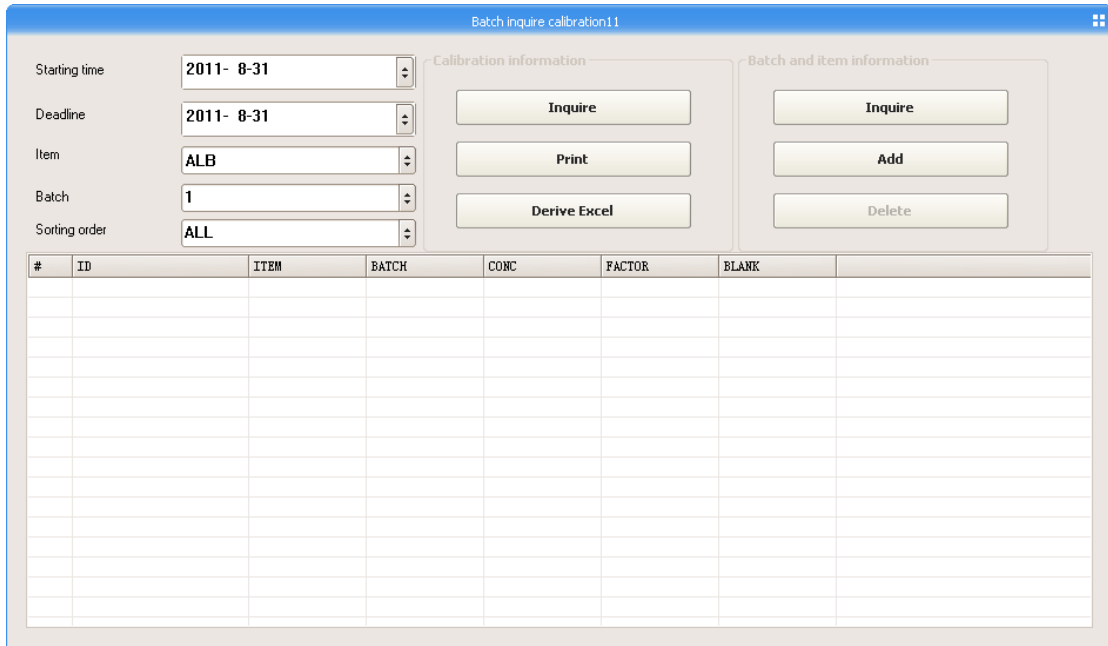

Figure 5-15
2. Input the batch number, then ordinally choose project names, then click the "add" button, you can set the batch number of the corresponding project, as shown in figure 5-15.